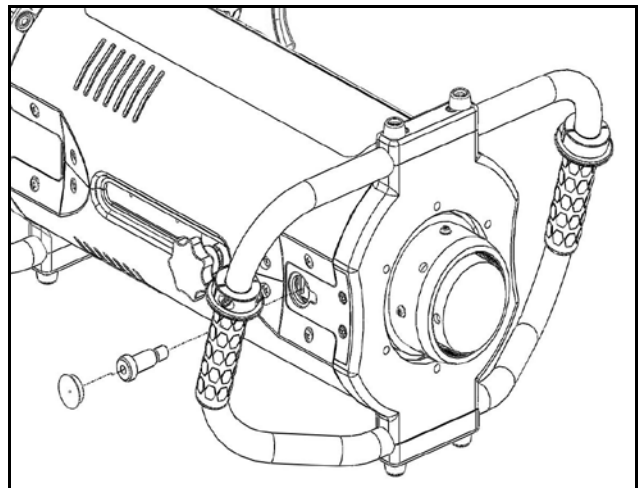

Figure 4 –Piston Reset Screws
3. Remove the plugs covering the two (2) Piston Reset Screws and remove the screws with the 1/4” hex driver (see Figure 4).
2. Apply two (2) drops of medium strength locking compound on the threads of the Piston Reset Screws. Install the Piston Reset Screws through the holes in the Handle Frame and into the Trolley (see Figure 4). Start both screws before fully tightening them.
3. Thread Impactor Assembly Retaining Nut into CIRT. Apply two (2) drops of medium strength Loctite to the Chamber End Nut threads.